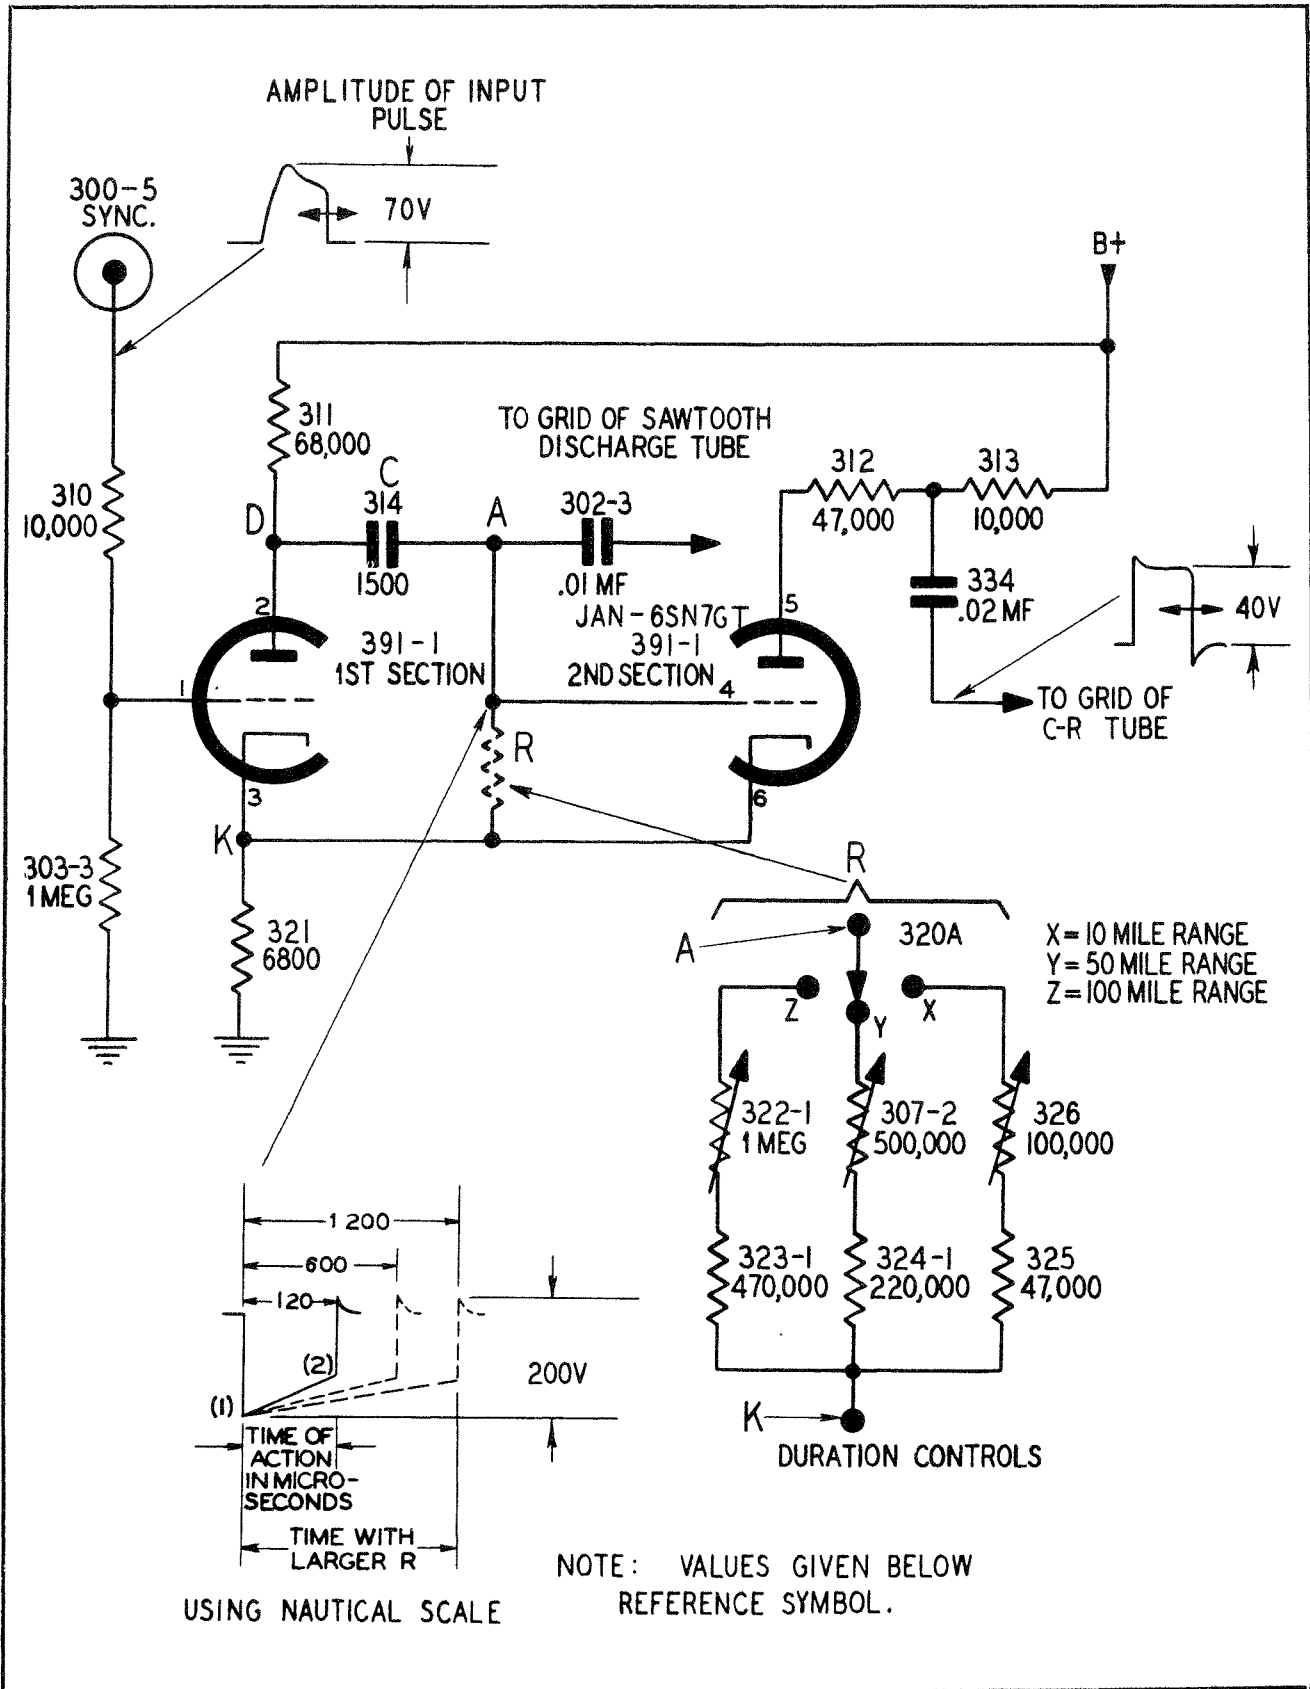

Figure 4-11. Trigger Circuit, Sectional Diagram
(See figure 4-11.)
5. In the quiescent state, point A, (see fig. 4-11) is practically at cathode potential, and point D is at a high positive potential, because there is no drop across resistor 311. When the left-hand section conducts, point D drops in potential by an amount equal to the voltage drop across resistor 311. Point A also drops in potential by the same amount, but the voltage across capacitor C does not change quickly. Capacitor C now slowly discharges. Since the potential of point D is fixed, the potential of A must rise as C changes to the new potential through R.
changes the rate of discharge of capacitor 314 and thus the time action of the circuit. Increasing R lengthens the time, as indicated in figure 4-11. In the indicator, resistor R consists of a resistance network as shown. Rapid selection of one of three different time intervals is possible through the use of "RANGE" switch 320-A. The time of any individual setting is adjusted by varying the value of the appropriate adjustable resistances 322-1 ("100"-mile range), 307-2 ("50"-mile range), or 326 ("10"-mile range).